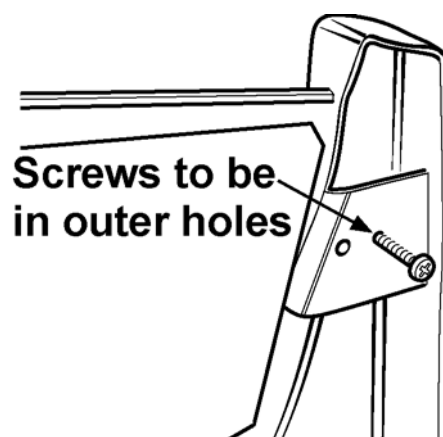

Figure 43. Casting screw position
14.5.1 Check that the two screws in the back of the fire front casting are in the outer threaded holes. If they are in the inner holes, relocate them (See figure 43).